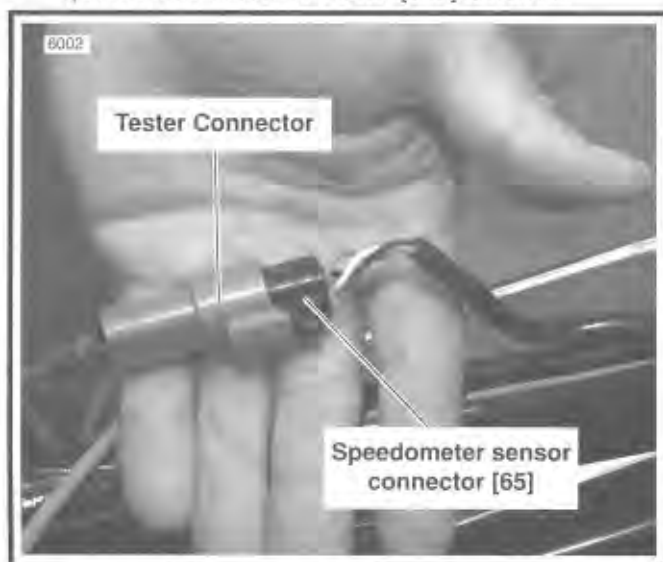

Figure 7-94. Test Connection
1. See Figure 7-94. Disconnect speedometer sensor connector [65]. Install speedometer tester connector into speedometer sensor connector [65B] as shown.